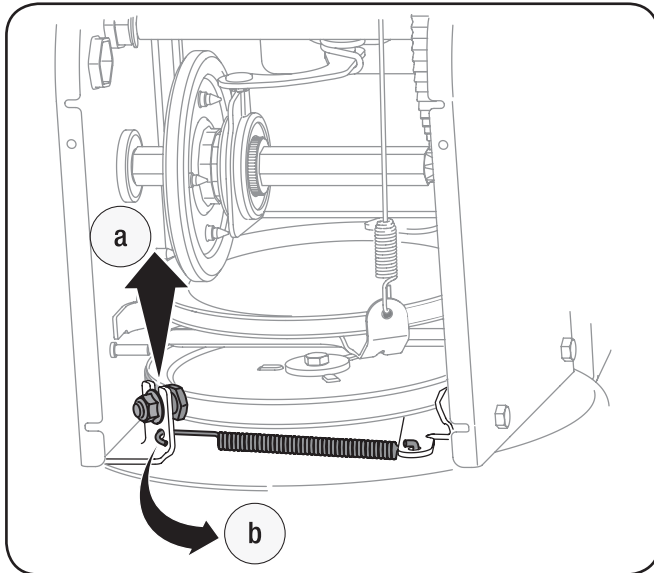

Fig. 7-5
7. Remove the belt as follows. See Fig. 7-5.